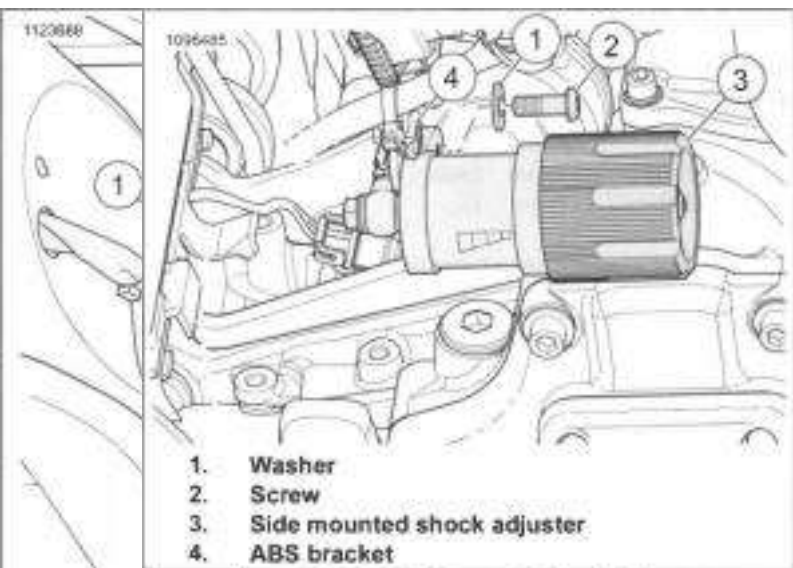

Figure 3-91. Side Mounted Shock Adjuster
2. Models with side-mounted shock adjuster: See Figure 3-91. Remove shock adjuster from bracket.
- a. Remove clip from ABS bracket (4).
- b. Remove screw (2) and washer (1).
- c. Set side mounted shock adjuster (3) to the side, being careful not to damage oil line.
2. Models with side-mounted shock adjuster: See Figure 3-91. Install shock adjuster on bracket.
- a. Route side mounted shock adjuster (3) in front of the battery tray.
- c. Install washer (1) and screw (2). Tighten.